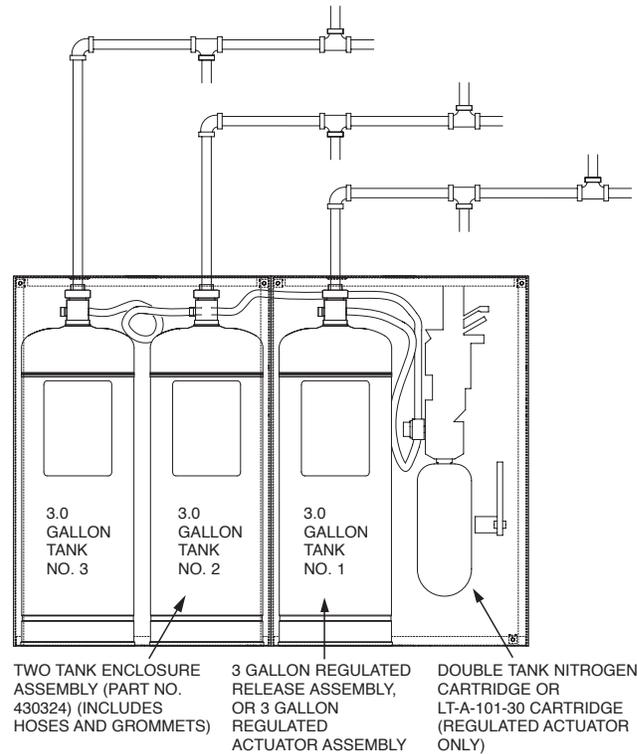

FIGURE 4-138
This optional configuration consists only of three 3-gallon tanks, all pressurized from a single double-tank nitrogen cartridge with expellant gas hoses connected as shown in Figure 4-138. Tanks No. 1 and No. 2 must be connected directly to the regulator with separate expellant gas hoses and Tank No. 3 must be connected to Tank No. 2 with a third expellant gas hose as shown in Figure 4-136. Each tank must be connected to an independent distribution piping network as shown in Figure 4-138. Distribution piping requirements for each network must be as follows:
2. The total length of all branch lines must not exceed 36 ft (10.9 m). See Figure 4-138.